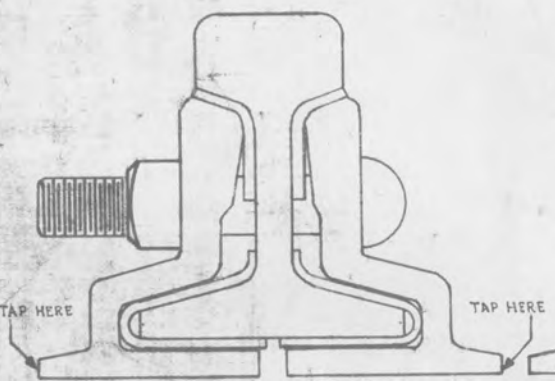

FIG. 3
4. TH. PLACE AND HOLD TOP FIBERS, A, IN POSITION AND DRAW METAL PLATES, ANGLE BARS, TOGETHER, WITH TEMPORARY BOLTS, TO THE POSITION SHOWN IN FIG. 3, TAPPING LIGHTLY AT POINTS INDICATED IF NECESSARY.